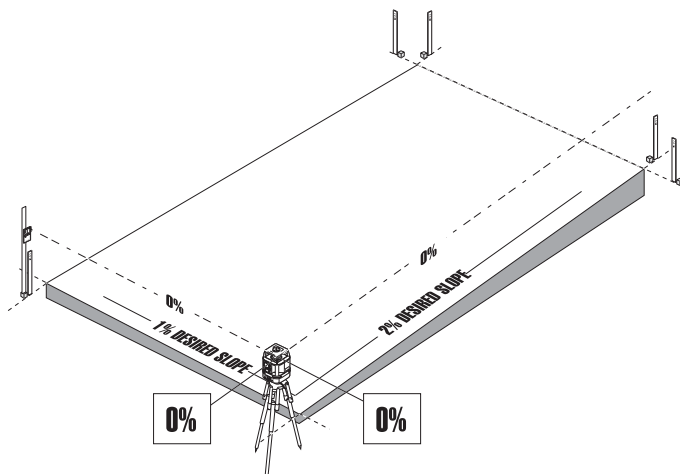

Figure 3-9. Laser and Grade Rod Positioning
5. Set the laser sensor to center the leveling bubble and get an on-grade signal, and lock it into position (Figure 3-9).